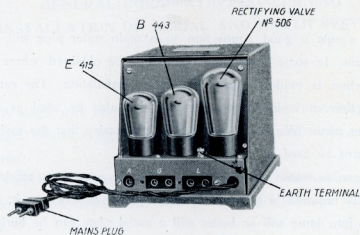

Fig. 2.
The cover is first removed by pushing it backwards and then lifting it out. The earth terminal indicated by the sign "⏏" is connected to earth. The diagram below (fig. 2) shows how the valves packed with the set are to be installed, after which the cover is replaced.
The aerial must be connected to socket A (fig. 2) with the aid of the plug which is supplied with the set. The loudspeaker is plugged into the 2 sockets on the right hand side marked "L"
(fig. 2). The two pin mains plug is then inserted into a mains socket.
The gramophone pick-up must be connected to the 2 sockets marked "G" intended for this purpose (see fig. 2). Knob "T" is then turned as far as possible in the direction opposite to that of arrow and plug "V" inserted into position 1. The aerial should be disconnected.
receiving set by plugging it into the sockets "L" (see fig. 2). The loudspeaker plug (B) in its turn is plugged into the tone filter.